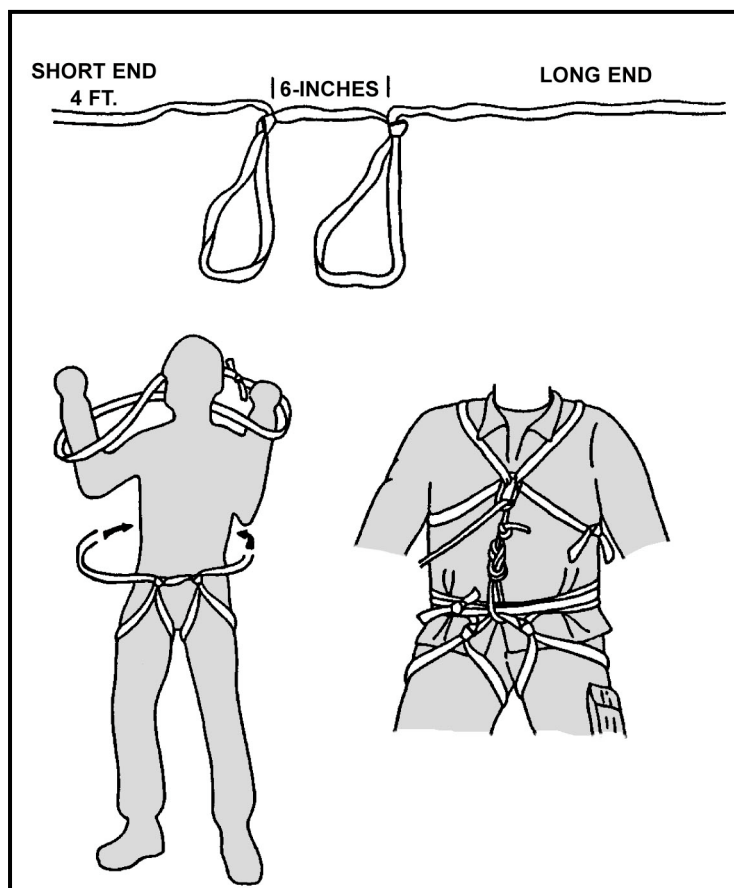

Figure 6-20. Improvised seat and chest harness.
(2) The bowline-on-a-coil is a safe and effective method for attaching to the rope when the terrain is low-angled, **WITHOUT THE POSSIBILITY OF A SEVERE FALL**. When the terrain becomes steeper, a fall will generate more force on the climber and this will be felt through the coils of this type of attachment. A hard fall will cause the coils to ride up against the ribs. In a severe fall, any tie-in around the waist only could place a “shock load” on the climber’s lower back. Even in a relatively short fall, if the climber ends up suspended in mid-air and unable to regain footing on the rock, the rope around the waist can easily cut off circulation and breathing in a relatively short time.
(3) The climbing harness distributes the force of a fall over the entire pelvic region, like a parachute harness. Every climber should know how to tie some sort of improvised climbing harness from sling material. A safe, and comfortable, seat/chest combination harness can be tied from one-inch tubular nylon.
c. **Improvised Seat Harness.** A seat harness can be tied from a length of webbing approximately 25 feet long (Figure 6-20, page 6-30).
(1) Locate the center of the rope. Off to one side, tie two fixed loops approximately 6 inches apart (overhand loops). Adjust the size of the loops so they fit snugly around the thigh. The loops are tied into the sling “off center” so the remaining ends are different lengths. The short end should be approximately 4 feet long (4 to 5 feet for larger individuals).
(2) Slip the leg loops over the feet and up to the crotch, with the knots to the front. Make one complete wrap around the waist with the short end, wrapping to the outside, and hold it in place on the hip. Keep the webbing flat and free of twists when wrapping.
(3) Make two to three wraps around the waist with the long end in the opposite direction (wrapping to the outside), binding down on the short end to hold it in place. Grasping both ends, adjust the waist wraps to a snug fit. Connect the ends with the